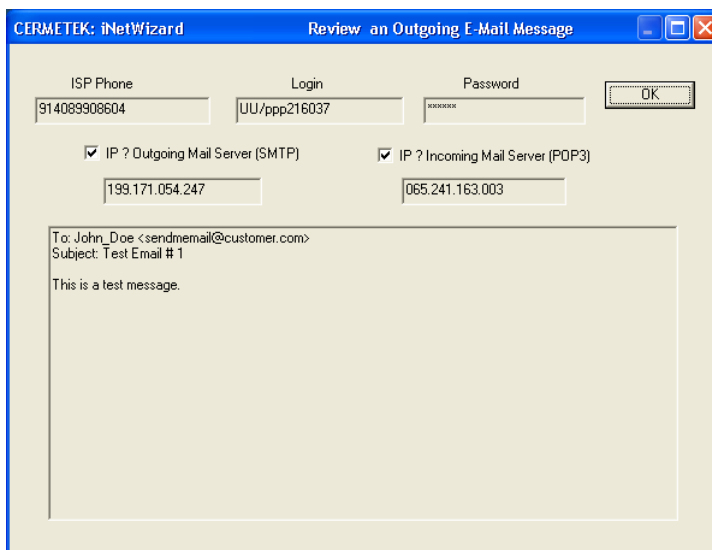

Figure 23. iNetWizard® Reviewing An Outgoing E-Mail Message window after all specified modifications per Example 3.
- Step 3. Single click on the REVIEW EMAIL button to review the email message. This will cause iNetWizard® to transfer the Local Configuration Profile to the iNet device’s Active Configuration Profile. During this transfer process, both the CONFIGURING INET PRODUCT and the QUERYING INET PRODUCT messages will be displayed. See the REVIEWING AN OUTGOING E-MAIL MESSAGE window in Figure 23.